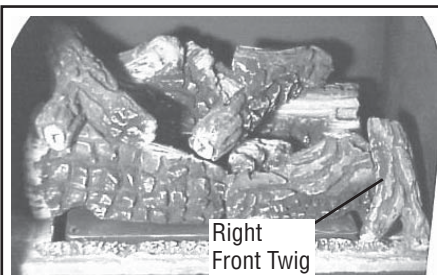

Figure 27
8. Install the front right twig onto the corresponding pin on the right front log. Align the twig with the indentation on the front right log as shown in Figure 27.